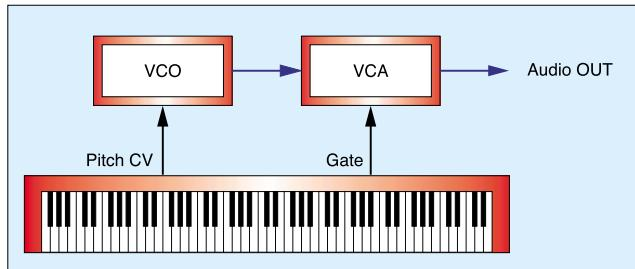
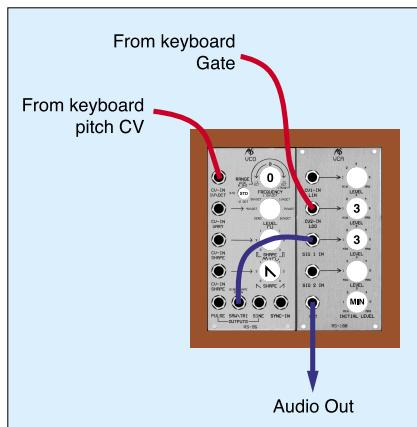

Figure 2: Connecting a keyboard to the modules in Figure 1.
Figure 3: Adding patch cables to control the pitch of the note and when it sounds.
Unfortunately, this is not simple. In fact, it's all but impossible, so we add a controlling mechanism to do most of the work for us. And, as discussed above, this mechanism is almost invariably a keyboard; perhaps with modulation and pitch-bend wheels that help us to inject some humanity into the performance, but a keyboard nonetheless. So we end up with the architecture shown in Figure 2 (top left), and the connections shown in Figure 3 (left). Note that I have connected the keyboard Gate directly to control the amplifier. This is an acceptable practice because synthesizers
If we play the patch in Figures 2 and 3,
► you can see that this is identical to that shown in Figure 3, so it will come as no surprise to you that it produces the organ-like sound already discussed.